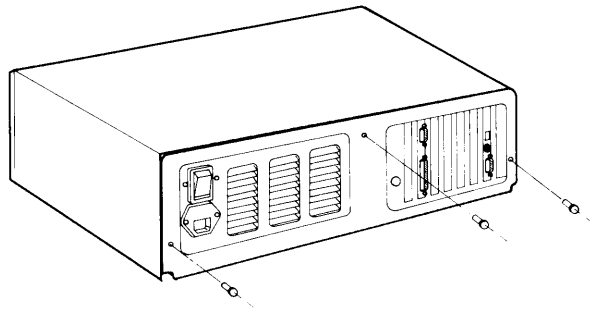

Figure 7-5. Removing the System Unit Cover.
NOTE: If you have an early model COMPAQ DESKPRO Personal Computer, there are two screws on the rear of the system unit. If you have a late model COMPAQ DESKPRO or if you have a COMPAQ DESKPRO 286 Personal Computer, there are three screws on the rear of the system unit (Figure 7-5).
8. Remove the screws that are on the back of the system unit (Figure 7-5).
11. Lift the cover straight up and off of the system unit (Figure 7-5).